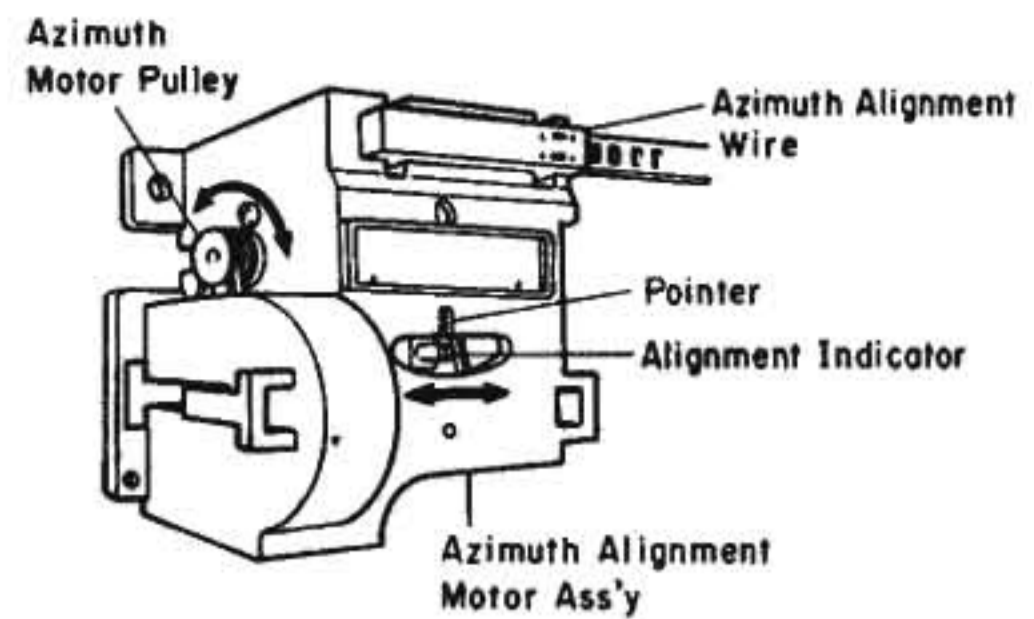

Fig. 2.15
- (1) Playback Head Height Adjustment
- (2) Azimuth Reference Position Adjustment
- (a) With the Cassette Holder open, press the Forward-Play button. Adjust VR824 on the Auto Azimuth P.C.B. Ass'y so that the Alignment Indicator coincides with the Pointer in the Azimuth Alignment Motor Ass'y. Refer to Fig. 2.15.
- (3) Playback Head Azimuth Alignment
- (4) Phase Adjustment and Record Head Height Adjustment and Azimuth Alignment